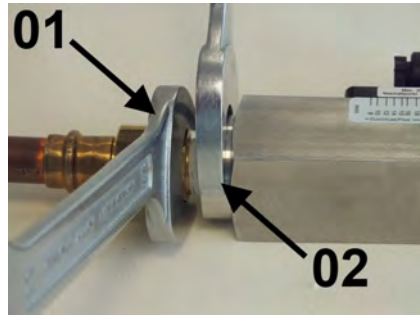

Fig. 12: Screw in the device
3. Keep turning in the adapter union (Fig. 12/01) while holding the process connection of the device locked (Fig. 12/02) until the connection is tight.